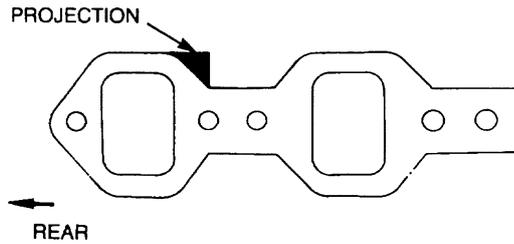

Figure 8 Air Inlet Manifold Gasket Installation
- a. Position a new manifold gasket on the cylinder head with the projection uppermost and toward the rear of the engine (Figure 8).